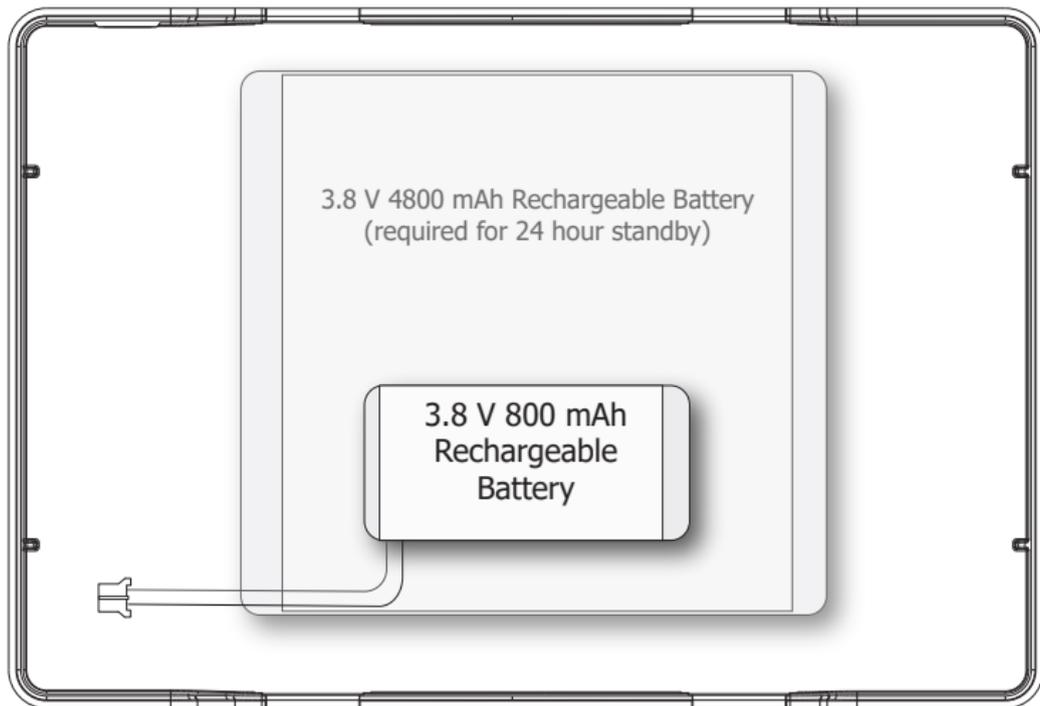

Figure 9: Replacing the Battery
3. Place the new battery in the same location and secure it with the included adhesive. See Figure 9.